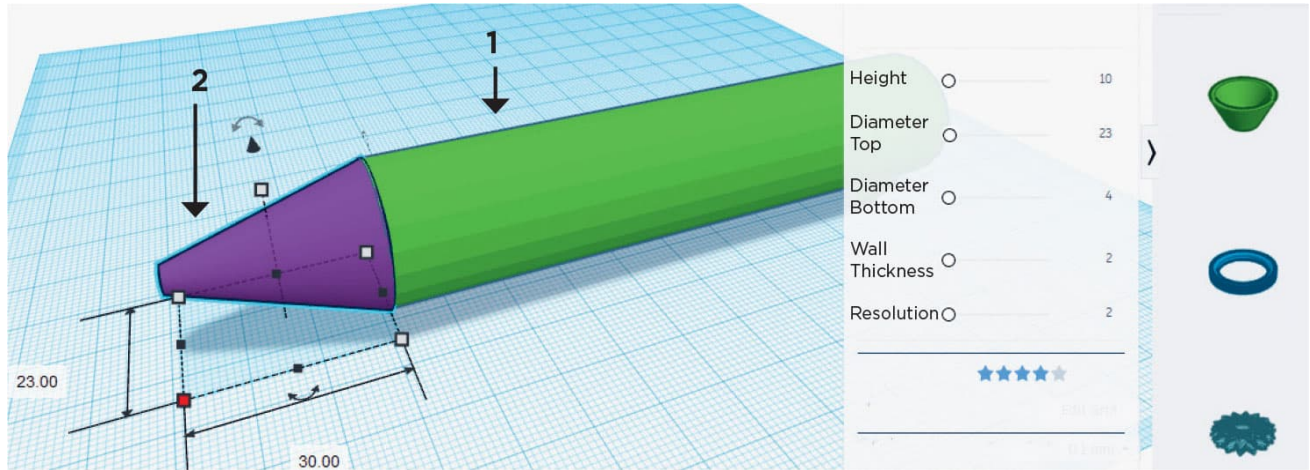

FIG. 2: Make the body casing by joining a cylinder and a snipped cone.
2. We will model using basic 3D elements to represent shapes. The body casing looks like a hollow cylinder that tapers on one end. We will model it as the combination of a regular hollow **Cylinder** (fig. 2, arrow 1) and a regular hollow **Cone** that is snipped on the narrow end (fig. 2, arrow 2). The cone is snipped on one end to allow for the refill to exit the casing. The hole in the cone tip must be 2.5 mm (or slightly larger than the diameter of the refill you will be using). Total body-casing length about 76 mm, but will vary depending on the ink refill used.